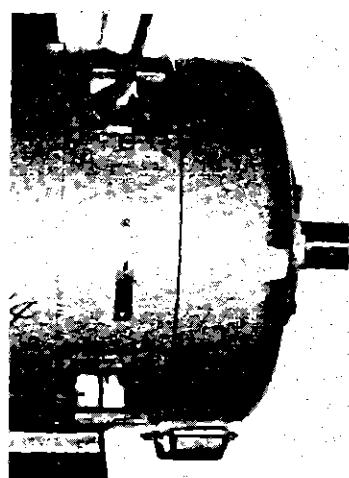

Fig. 8-9
- h) Insert a screwdriver into the gap between the shield on the driven side and the frame to remove the faucet, and then withdraw the shield from the frame. (Fig. 8-9)